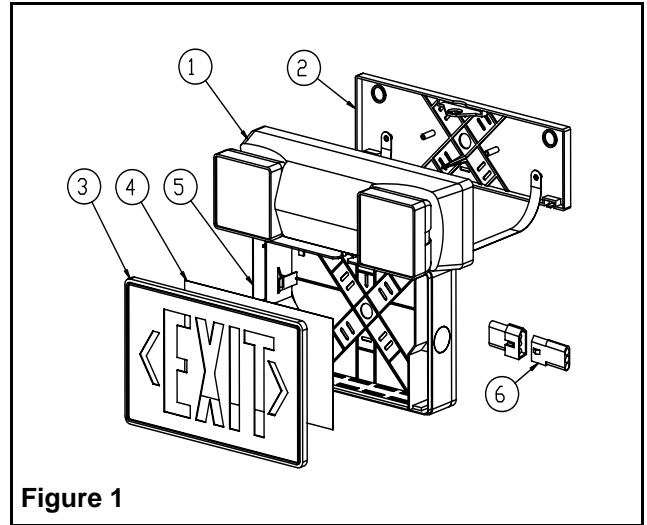

Figure 1
2. Locate the AC connector (see fig. 1). Route AC wires of male half through the large hole in back plate. Attach to the unswitched AC circuit.